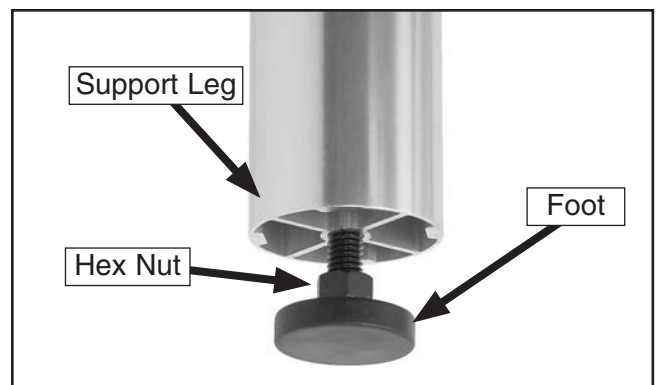

Figure 32. Foot installed on support leg.
6. Thread a $\frac{3}{8}$ "-16 hex nut onto each foot, then thread the feet into the bottom of the support legs, as shown in **Figure 32**.